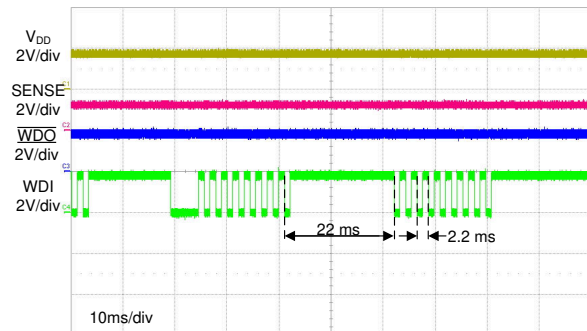

图 8-10. Window Watchdog Timing
In this application, the window watchdog timing options are based on the PWM signal that is provided to the TPS3850. A window watchdog setting must be chosen such that the falling edge of the PWM signal always falls within the window. A nominal window must be designed with  $t_{WDL(max)}$  less than 5 ms and  $t_{WDU(min)}$  greater than 5 ms. There are several options that satisfy this window option. An external capacitor can be placed on the CWD pin and calculated to have a sufficient window. Another option is to use one of the factory-programmed timing options. An additional advantage of choosing one of the factory-programmed options is the ability to reduce the number of components required, thus reducing overall BOM cost. Leaving the CWD pin unconnected (NC) with  $SET0 = 0$  and  $SET1 = 1$  produces a  $t_{WDL(max)}$  of 2.22 ms and a  $t_{WDU(min)}$  of 23.375 ms; see 图 8-10.